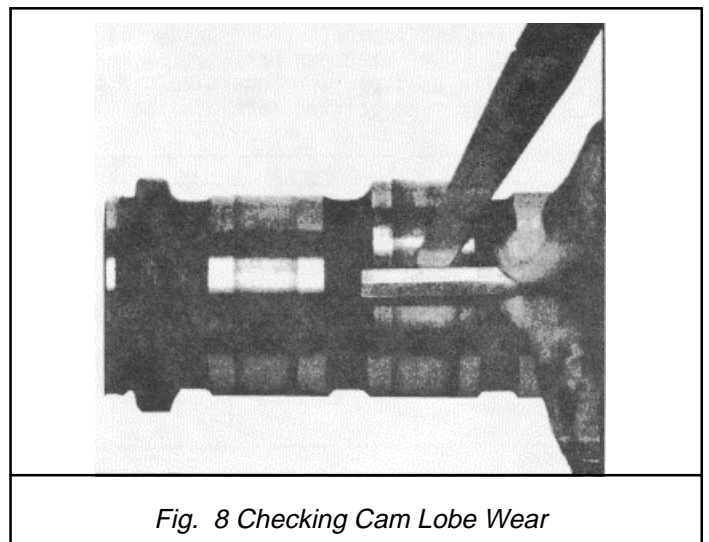

Fig. 8 Checking Cam Lobe Wear
- (1) With a tapered leaf set of feeler gages (.0015" - .010") and a piece of square hard material (1/8" x 3/8" x 1"), measure the flat on the injector rise side of the cam lobes (Fig. 8)
- (2) If the flats measure less than .003" in depth and there are no other defects, the camshaft is satisfactory for service.
- (3) A slightly worn cam lobe, still within acceptable limits, may be stoned and smoothed over with a fine crocus cloth.